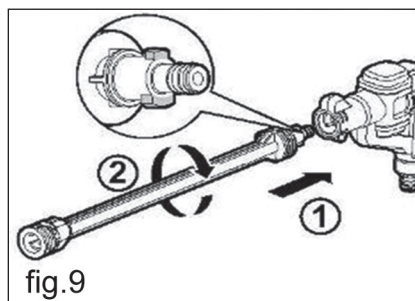

fig.9
4. If it is more convenient to position yourself further from the spray nozzle or you require a longer reach, insert the longer extension wand (fig.9, 1) into the pressure wash unit and turn it clockwise until it is fixed in place (fig.9, 2).